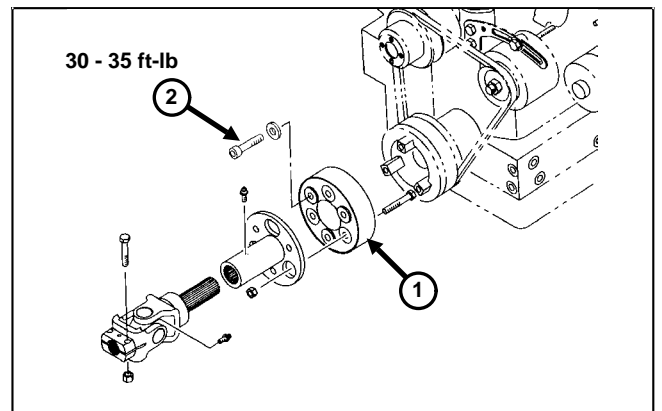

Figure 10
3. Remove three capscrews securing transmission drive shaft coupler to engine crankshaft pulley (Fig. 10). Do not disconnect drive shaft from transmission.